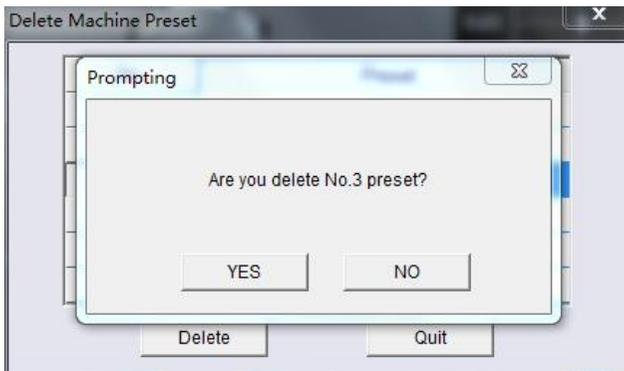

Figure 3.4.9
**Step 3:** As shown 3.4.8 dialog box, select the location of the user's machine preset number you want to delete (such as Option 3), and then point below the "delete" button, you pop up as shown in Figure 3.4.9 the delete confirmation dialog window.